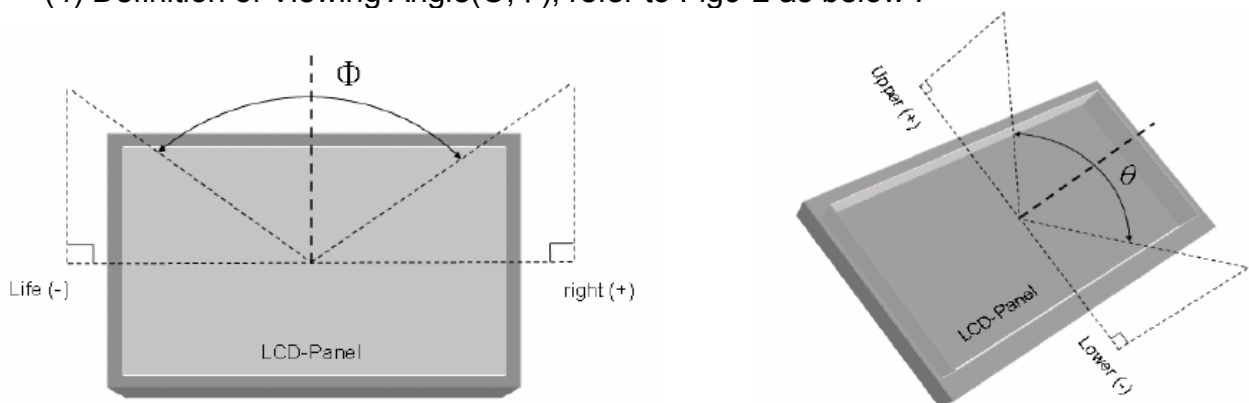

Fig9-2 Definition of Viewing Angle
### (4) Definition of Viewing Angle( $\theta, \Phi$ ), refer to Fig9-2 as below :